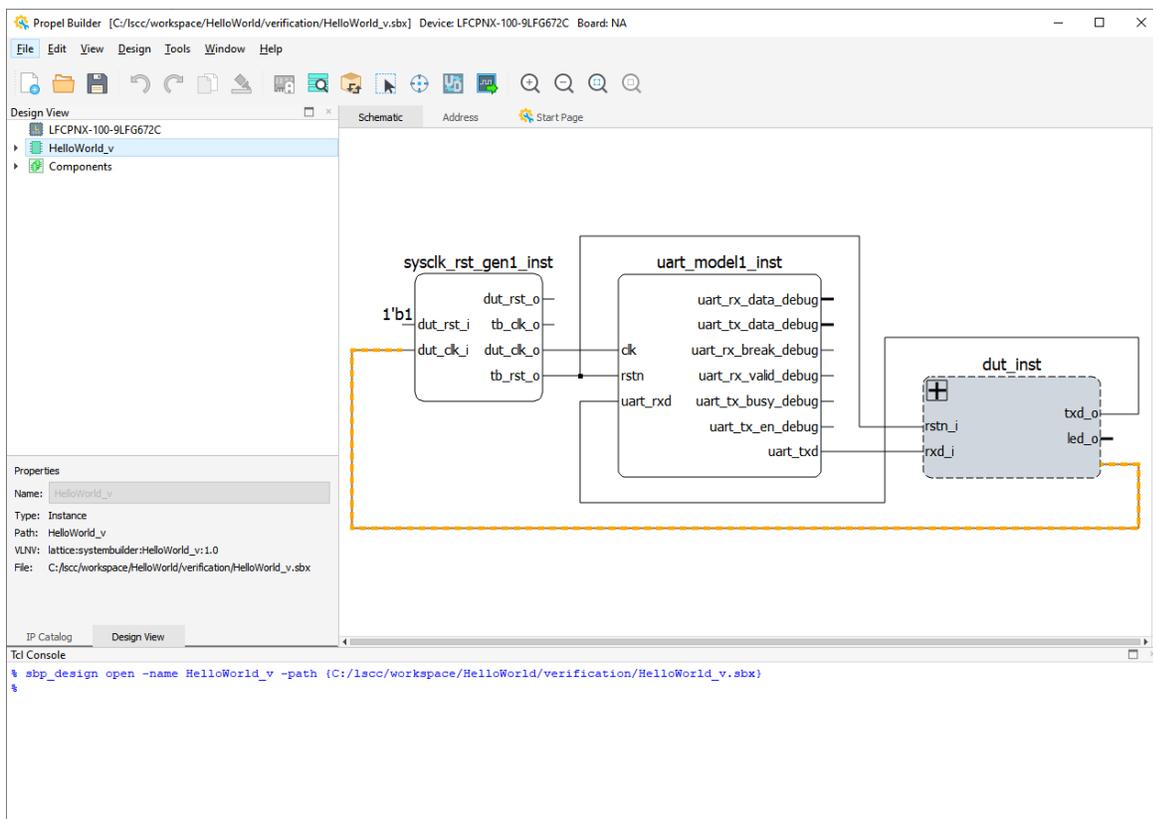

Figure 2.89. Switching to Project Verification
- Click **Yes** in the Propel Builder dialog box. The Propel Builder GUI switches to verify the project (Figure 2.89).